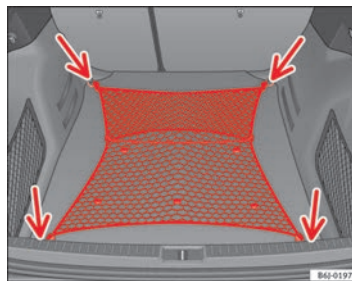

Fig. 89 Stretch net laid out
- Secure the luggage net to the four fastening rings -arrows- ⇒ fig. 89.